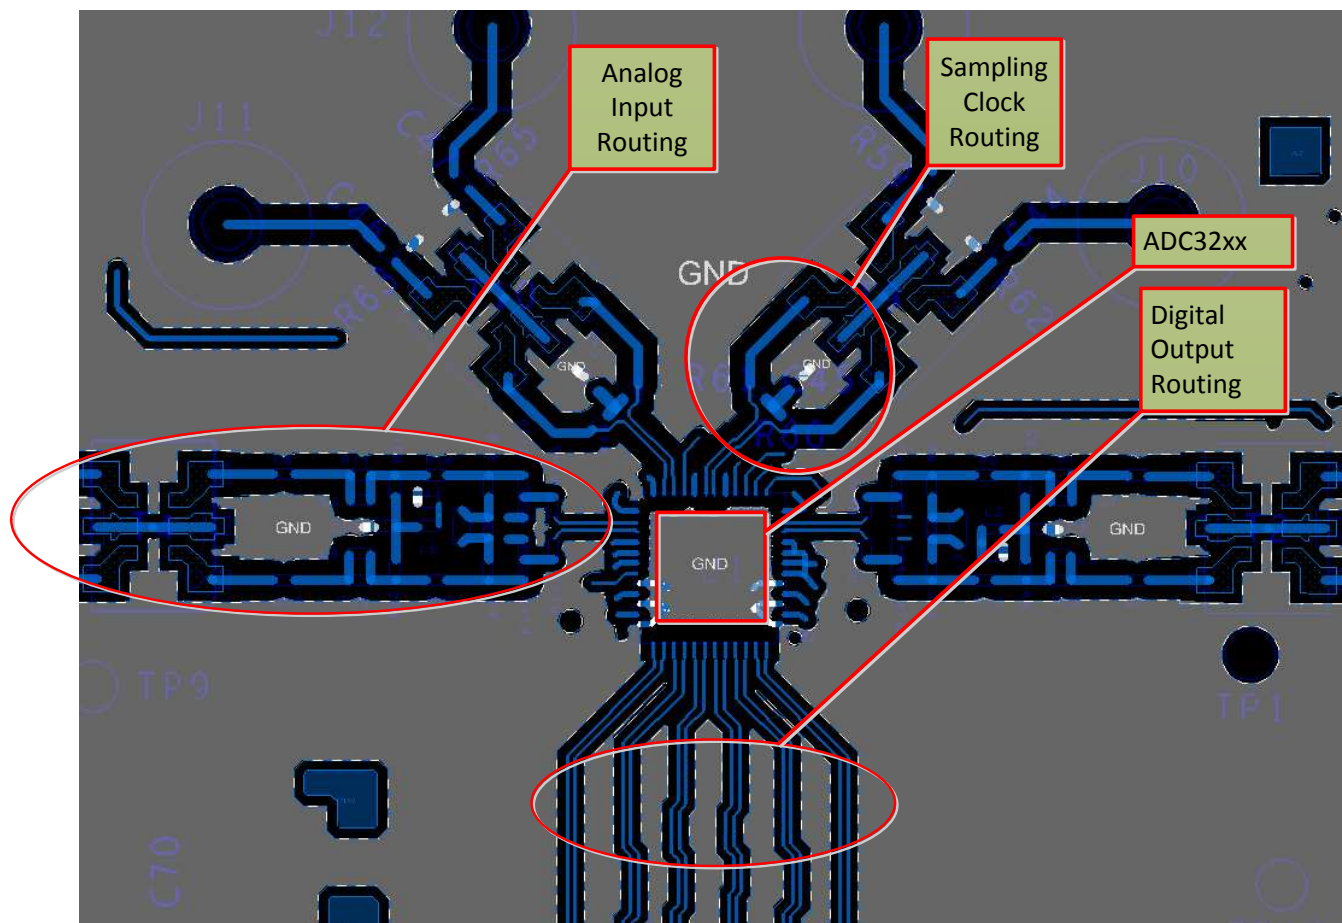

Figure 179. Typical Layout of the ADC322x Board
The ADC322x EVM layout can be used as a reference layout to obtain the best performance. A layout diagram of the EVM top layer is provided in Figure 179. Some important points to remember during laying out the board are:
1. Analog inputs are located on opposite sides of the device pin out to ensure minimum crosstalk on the package level. To minimize crosstalk onboard, the analog inputs must exit the pin out in opposite directions, as shown in the reference layout of Figure 179 as much as possible.
2. In the device pin out, the sampling clock is located on a side perpendicular to the analog inputs in order to minimize coupling between them. This configuration is also maintained on the reference layout of Figure 179 as much as possible.